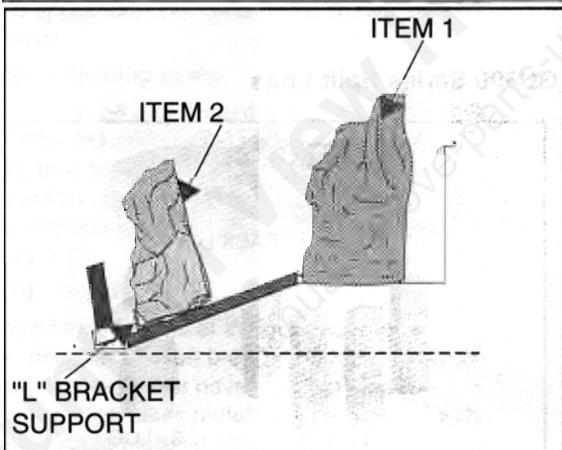
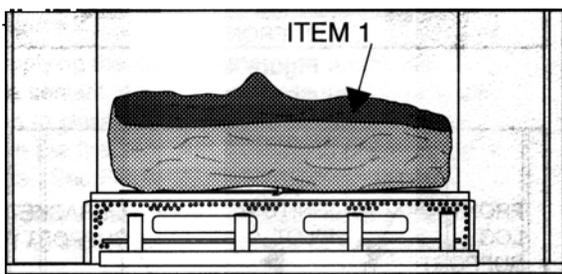

Figure 50
Figure 51
2. See **Figure 51**. Place the Back Log (**Item 1**) on the Back Log Support ensuring that the log is up against the back of the ignitor/pilot assembly. The flat surface of the log will sit on the Back Log Support with the split side of the log facing front. See **Figure 50**.